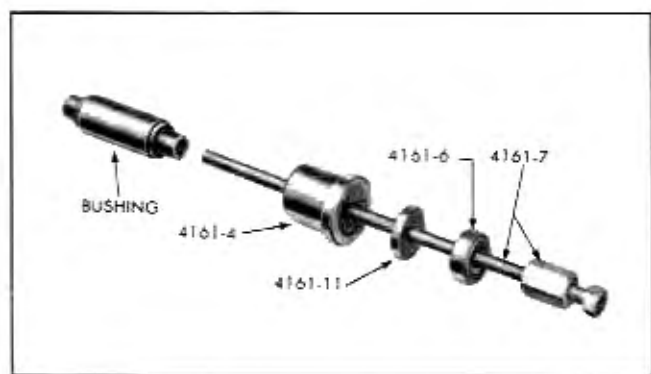

Fig. 4-53 Rear Bushing and Components of Replacer Tool J-4161-A
a. Oil threads and insert screw and nut assembly 4161-7 through thrust bearing 4161-6, washer 4161-11, flanged adapter 4161-4, and new bushing assembly (Fig. 4-53).
a. Oil threads and insert draw bolt 4161-5 with hex nut 4161-7 through thrust bearing 4161-6, washer 4161-11, flanged adapter 4161-4, and new spring bushing assembly (Fig. 4-53).